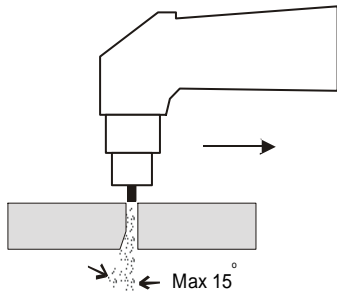

Fig. 5
- The cutting speed is too high. Make sure the slope of the cutting arc does not exceed about 15 °(see Figure 5).